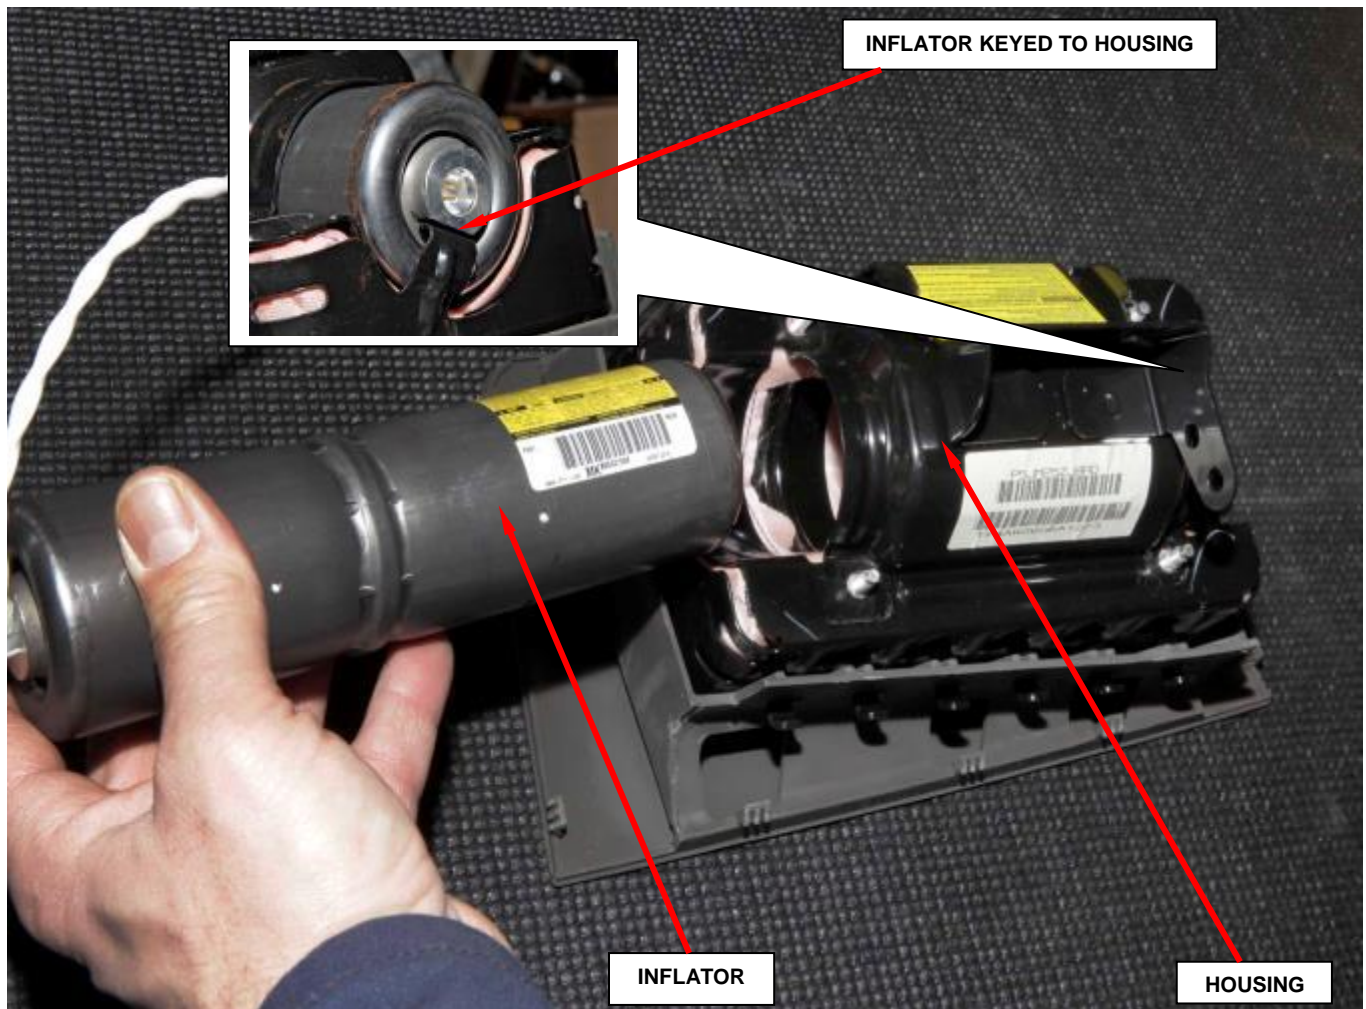

Figure 47 – Inflator Installation
- g. Slide the new inflator into the housing (Figure 47).